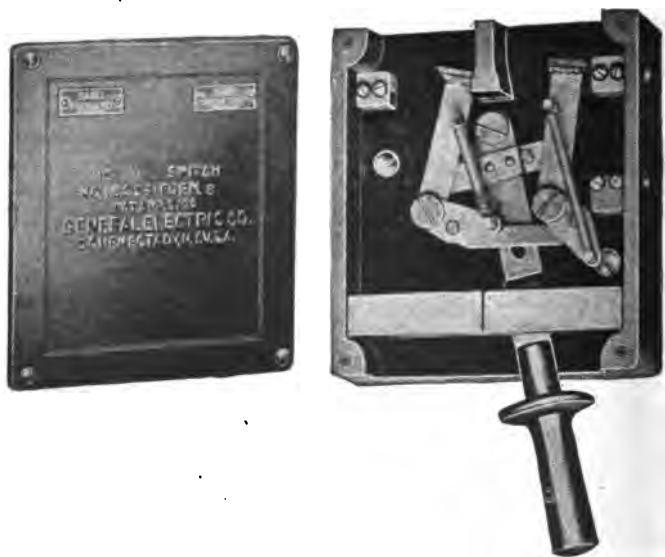

Fig. 521. Sander Operating Switch.
76. SANDER OPERATING SWITCHES (Fig. 521) are located one on side of cab near each master controller. These are double-throw switches and are marked "Sand Forward," "Sand Reverse." Moving